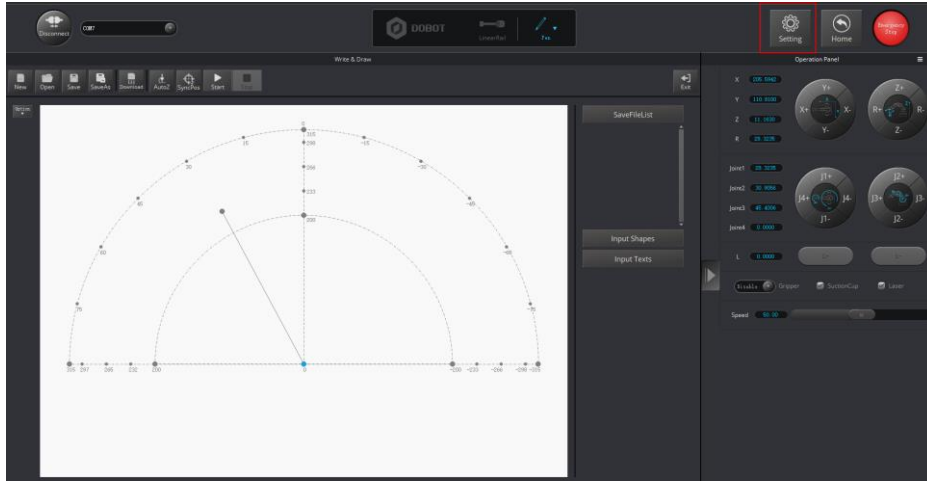

Figure 5.49 Click Setting
1. Click **Setting** on the **Write & Draw** page, as shown in Figure 5.49.